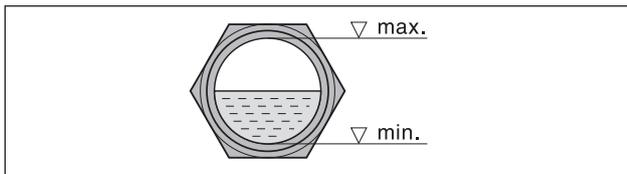

Fig. 5 Oil level
- b) After correcting the direction of rotation if necessary, start the motor again and stop it again after 2 minutes in order to top missing oil up to the upper edge of the sight glass (Fig. 5/I). Refilling must be repeated until all openings have been filled completely.